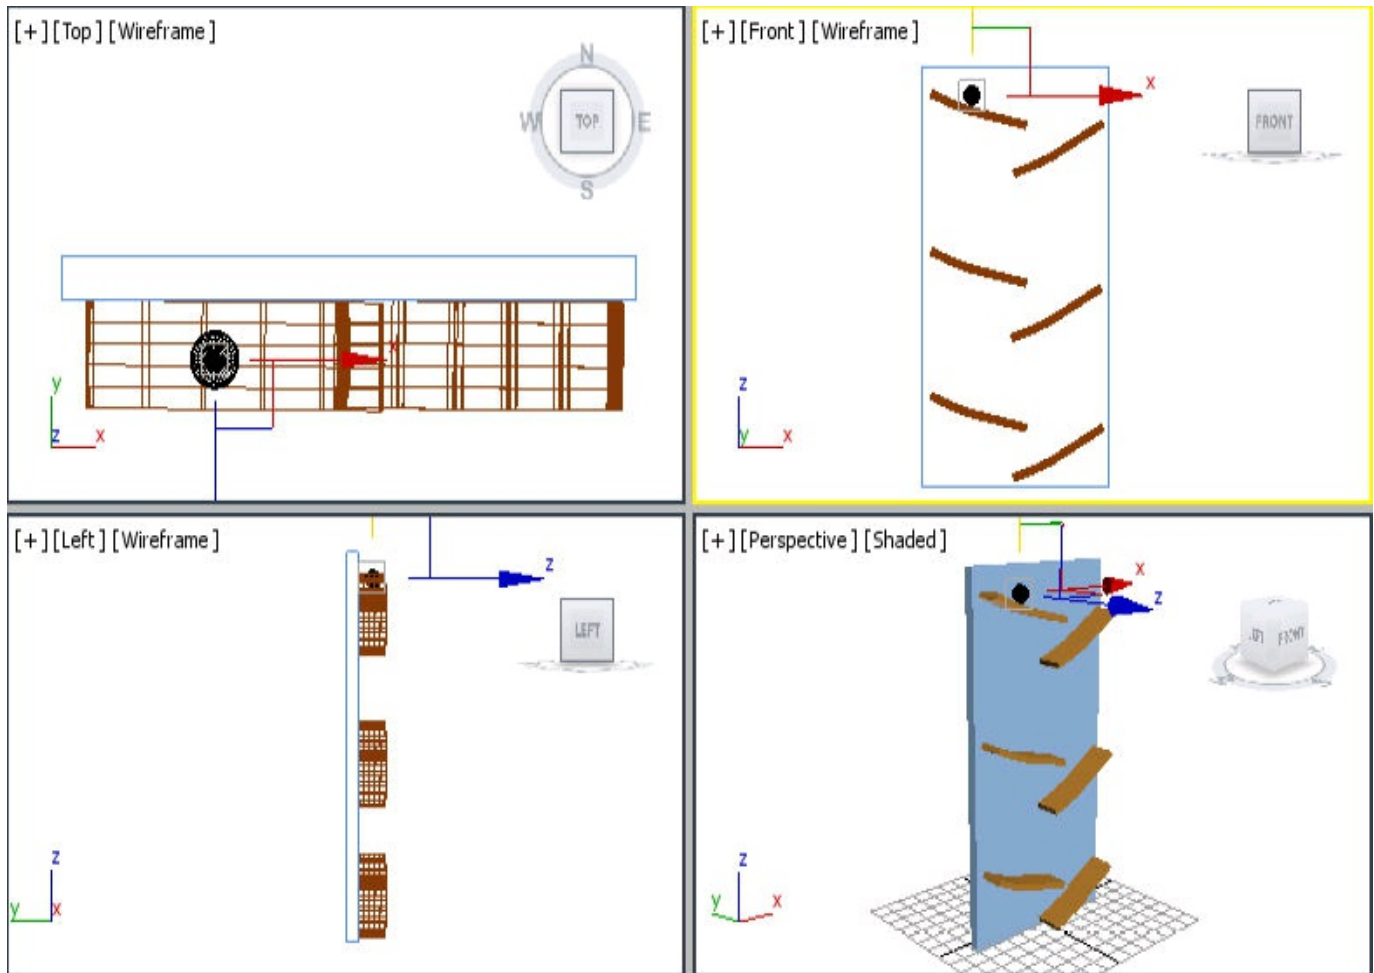

Figure 16-59 Alignment of ball in viewports
the cursor to the right. Next, release the left mouse button; the **Clone Options** dialog box is displayed. Make sure that the **Copy** radio button is selected. Set the value **1** in the **Number of Copies** spinner and choose the **OK** button; one copy of each slider is created. Next, align and rotate all of them, refer to Figure 16-59.
19. Rename the sphere to **ball**. Next, align *ball* in viewports such that it rests on *slider1*, as shown in Figure 16-59.